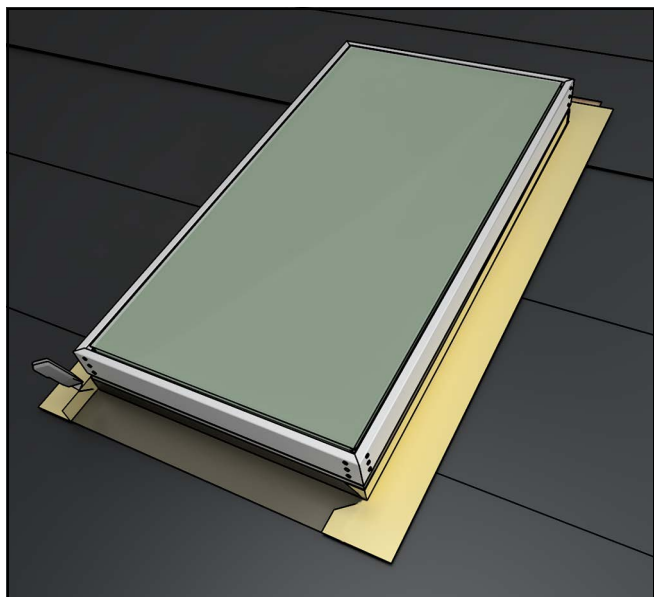

Figure 12
10. Wrap the jambs with adhesive flexible flashing and create water-shedding laps over roofing underlayment. See Figure 12.